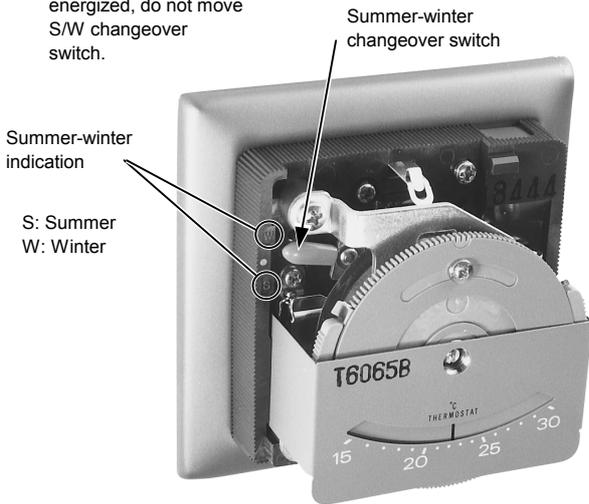

Fig. 10 Summer-Winter changeover switch of T6065B, T9065B
2. T6065B and T9065B have S/W changeover switch. Set the lever in the specified position. See Fig. 10. Note: When the equipment is energized, do not change the switch.